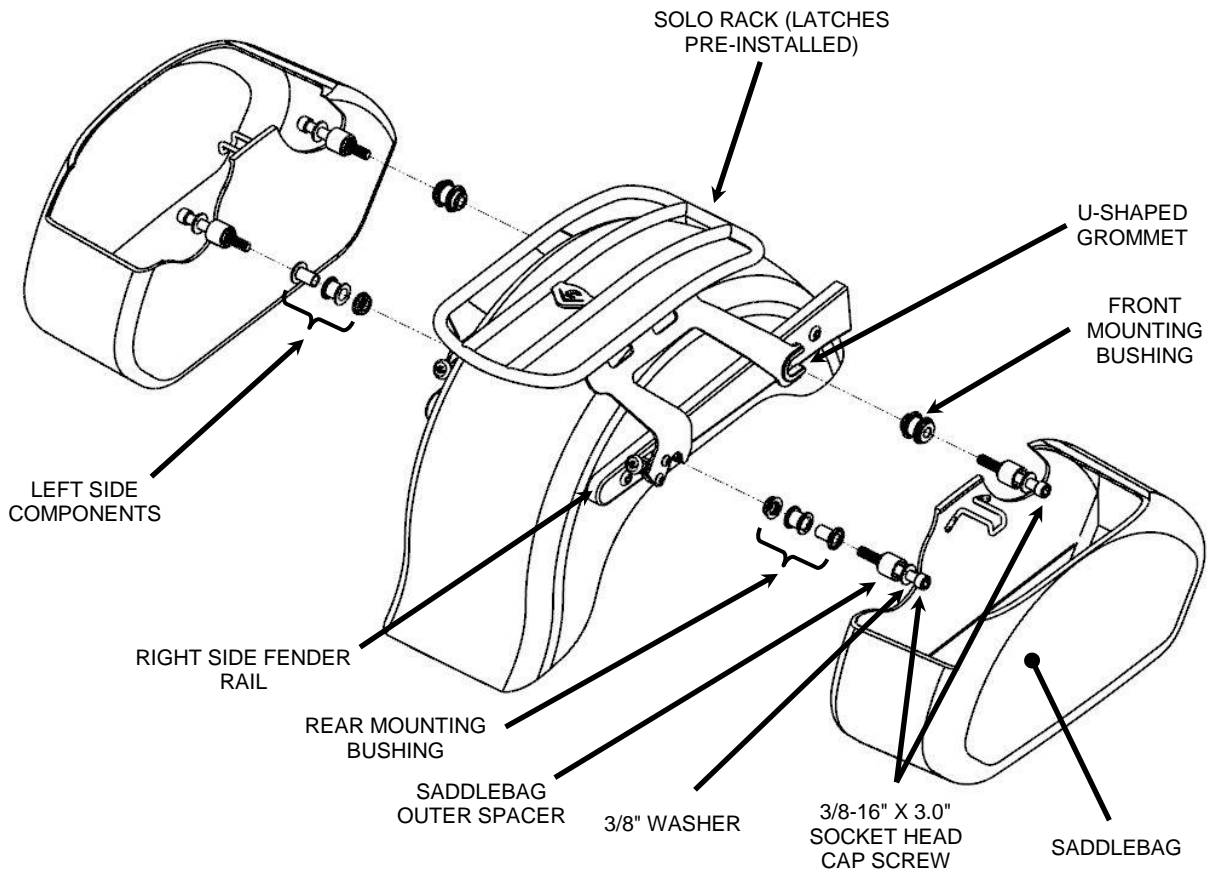

FIGURE 2
2. Remove the o-rings from the front and rear screws and remove the stock inner spacers (the one closer to the fender rail), and stock bolts from the saddlebags. Insert (1) of the supplied 3/8-16 X 3.0" screws through (1) supplied 3/8" washer, the front saddlebag mount hole and the supplied front backrest bushing, see **Figure 2**. Insert (1) of the supplied 3/8-16 X 3.0" screws through (1) supplied 3/8" washer, the rear saddlebag mount hole and the supplied rear backrest bushing. Place sufficient blue loctite on both screws. Do not install original o-rings. Reinstall the right bag carefully on to the lower front mount and then thread in the new screws being sure the spacers are in place correctly and centered in the fender rail. Snug the bolts but do not fully tighten at this time.
3. Repeat, Steps 1 and 2 for left side saddlebag using **Figure 2**, be sure to orientate all parts correctly.